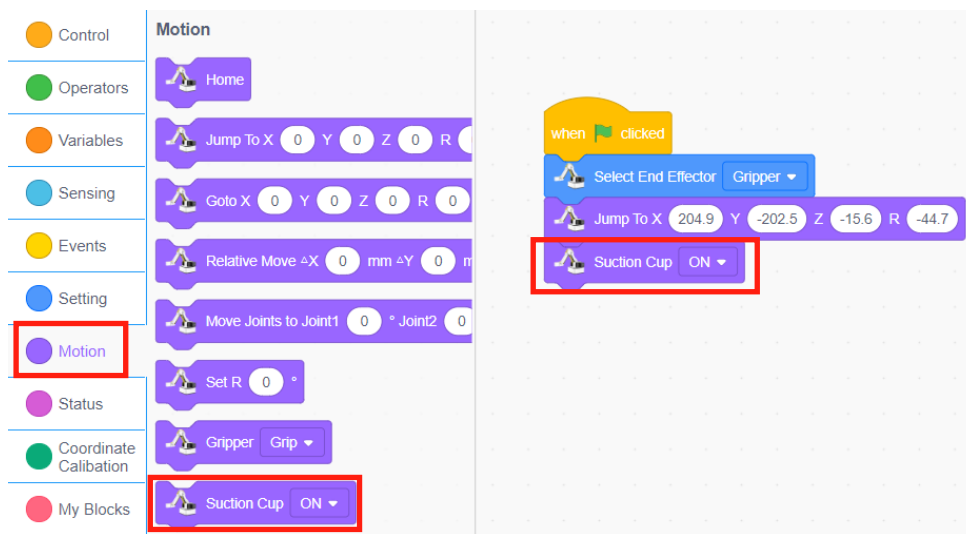

Figure 1.13 Suction of the stamp
Step 9: Pick up the stamp. Click on the "**Motion**" tab, drag the "Suction Cup" block, and concatenate it with the previous block, as shown in Figure 1.13.